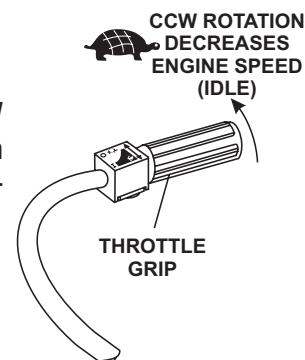

Figure 13. Throttle Grip (Idle/Turtle Position)
6. Turn the *throttle grip* CCW to the "TURTLE" position (Figure 13) to start the engine in the idle mode.